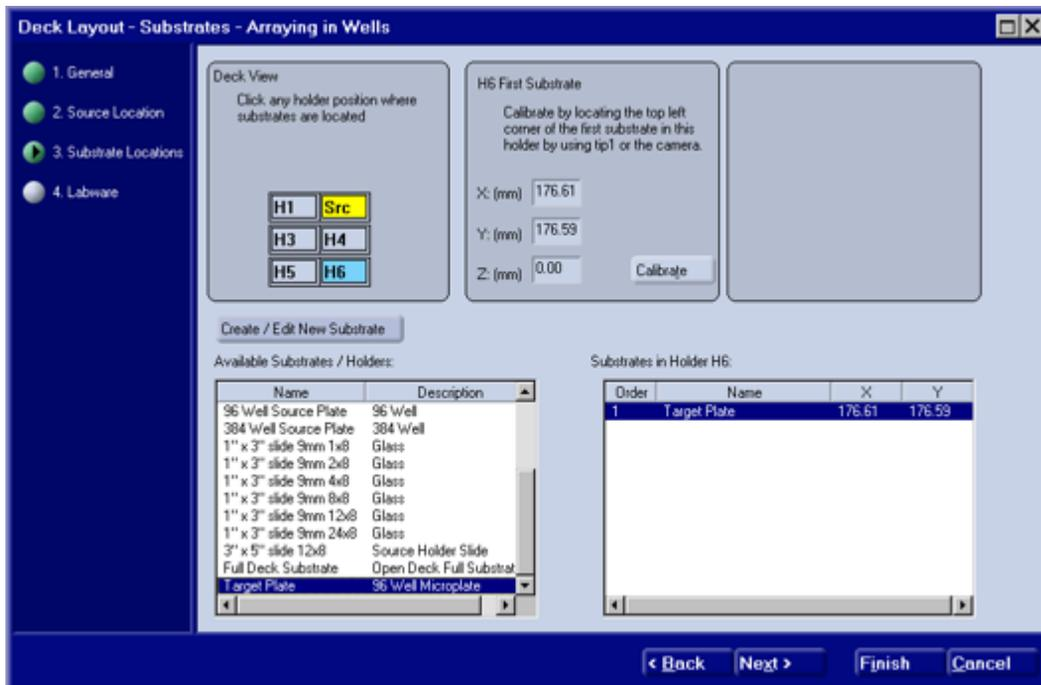

Figure 8-7. Deck Layout for Arraying into Plate Wells.
1. While creating a Deck Layout, choose a microplate for the substrate (Figure 8-7).
2. Make sure that only ONE plate substrate is selected for each holder (Figure 8-7).